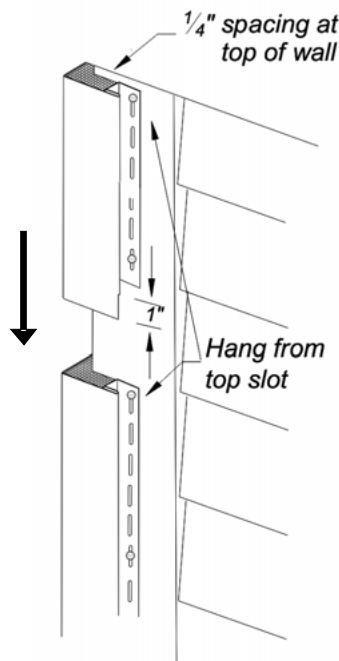

Figure 2.
- If more than one length of corner post is required, remove 1" from the nail hem and receiving channel of the upper post and overlap the post by 3/4" to allow for expansion (Fig. 2).